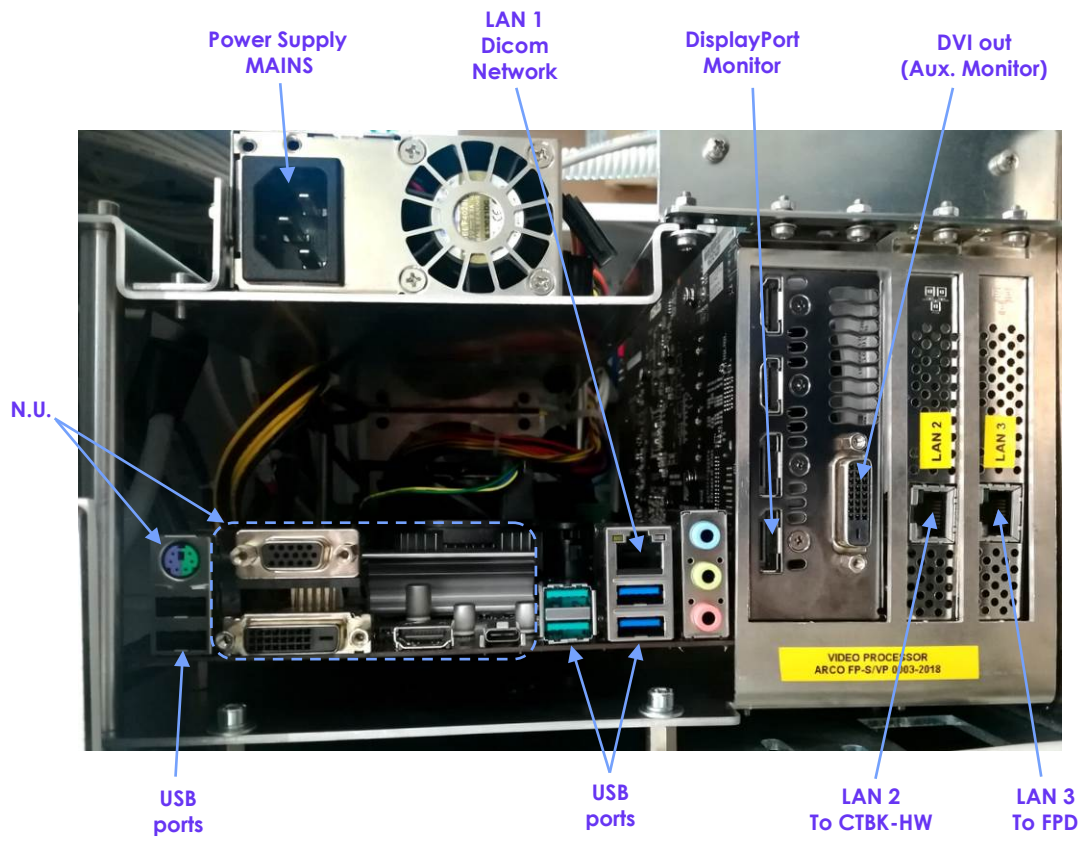
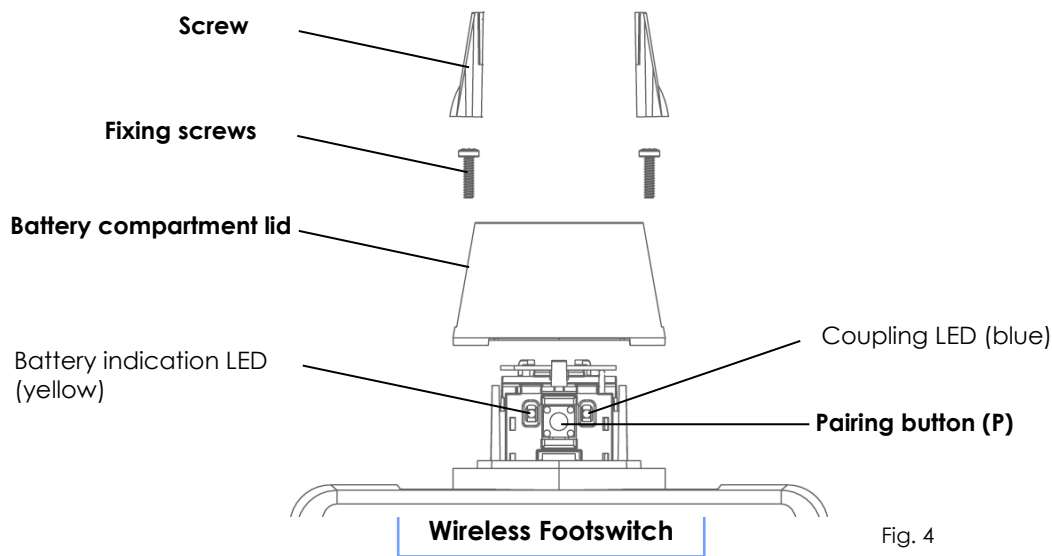
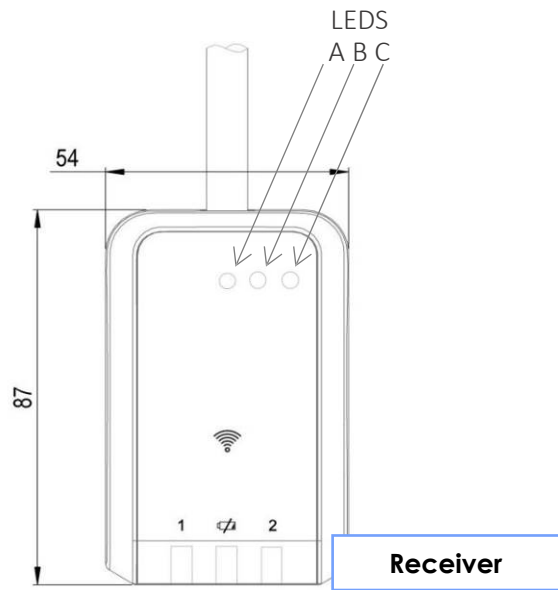

Fig. 3
Fig. 4
Fig. 5
- Assemble the monitor support arm (**B**) and fix it by tightening the 4 screws (**V1**); fix the covers with the 4 screws (**V2**). See Fig.3.
- Mount the monitor support/handle (**S**) to the monitor (**M**), inserting in between the spacer (**D**) and tightening only the 2 screws (**V3**) letting them stick out temporarily some 5/6 mm – fig.3/ fig.4 /fig.5.
- Assemble the monitor group by inserting the screws (**V3**) in the cavities indicated in fig.5.
- Press and release the **footswitch pairing button P** (see fig. 4): the blue **pairing LED** starts flashing.
- Press and release the **receiver pairing button R** (see fig. 5): the blue **pairing LED** starts flashing.
1. If the old footswitch is still on and working, it is enough to press and hold the **receiver pairing button (P)** for at least 5 seconds (see Fig. 4); The **connection LED 1** of the receiver turns off meaning that the process has been successful.
2. If the old footswitch is not working or disconnected, press and hold the **footswitch pairing button (R)** on the receiver for at least 5 seconds (see Fig. 5); The **connection LED 1** of the receiver turns off meaning that the process has been successful.